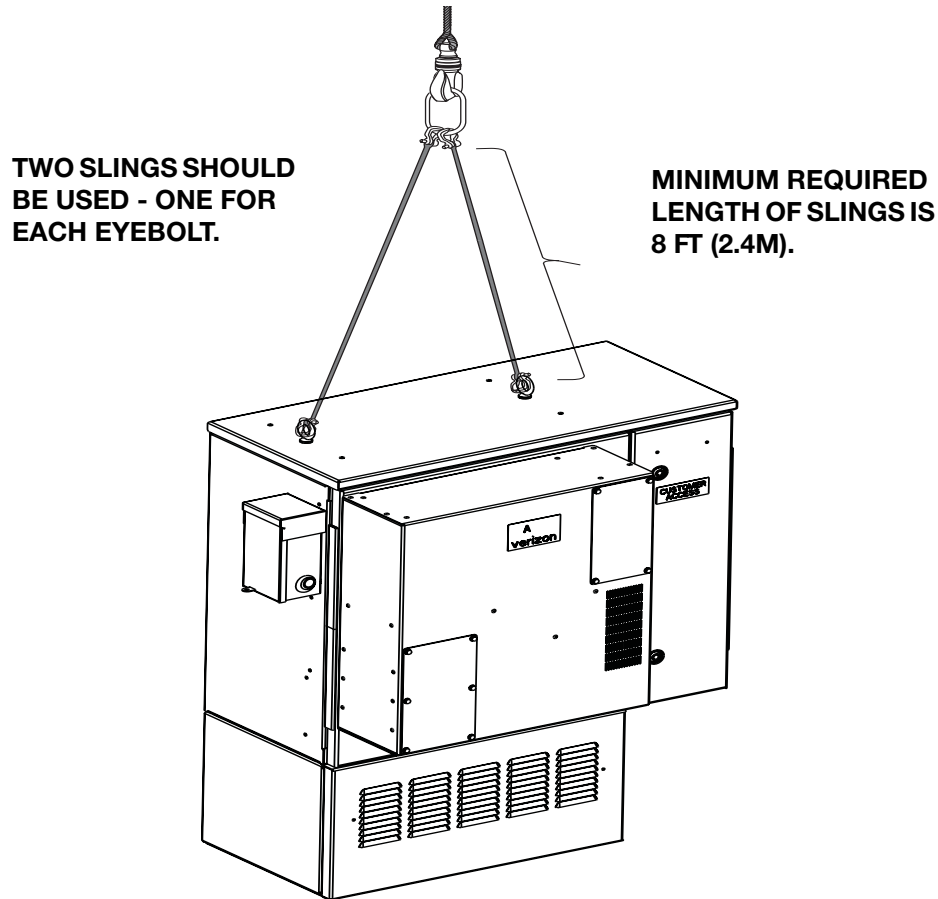

Fig. 7 : Lifting the Cabinet
Step 1: Insert the lifting cable sling connecting links securely through each of the two lifting ears (Fig. 7). To prevent the cabinet from tipping when the pallet brackets are removed, take up the slack with the crane. **DO NOT** tighten the cables so that the pallet lifts. The weight of the pallet will make it difficult to remove the bracket bolt.